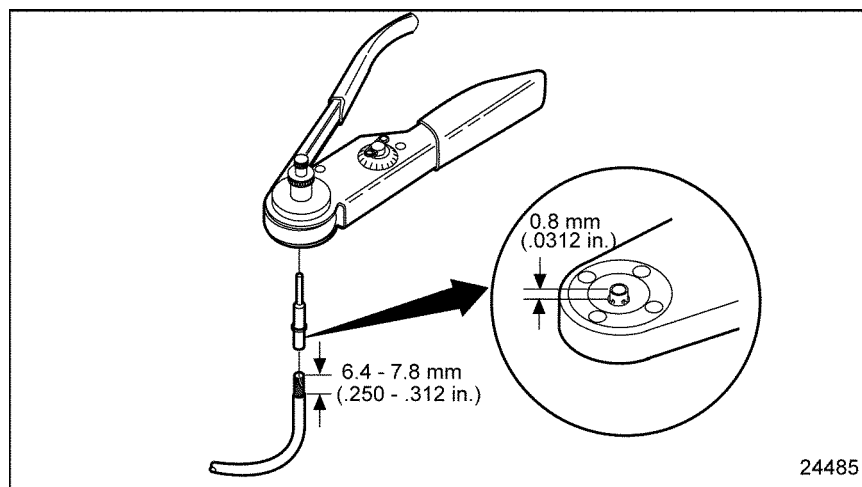

Figure 3-20 **Setting Wire Gage Selector and Positioning the Terminal**
4. Position the terminal so that the crimp barrel is 1/32 of an inch above the four indenters. See Figure 3-20. Crimp the wire.